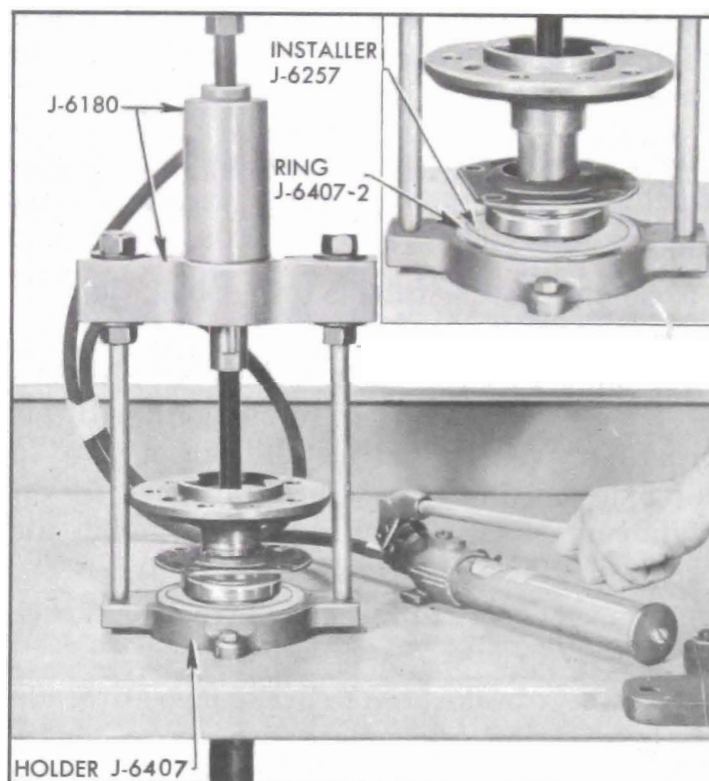

Figure 6-8—Installing Rear Wheel Bearing or Retaining Ring
4. Press bearing and seal assembly against shoulder on axle shaft using Installer J-6257 either in a press or in a set-up using Ram and Yoke Assembly J-6180 and Holder J-6407 with Ring J-6407-2 shown in figure 6-8.